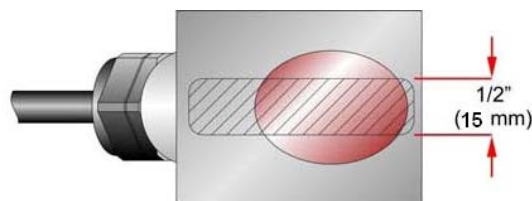

Figure 2.2
1. For DMTF transducers, place a single bead of couplant, approximately 0.05 inch [1.2mm] thick, on the flat face of the transducer. See Figure 2.2. Generally, silicone-based grease is used as an acoustic couplant, but any grease-like substance that is rated not to “flow” at the temperature that the pipe may operate will be acceptable.
5. Place a single bead of couplant, approximately 0.05 inch [1.2 mm] thick, on the flat face of the transducer. See **Figure 2.2**. Generally, a silicone-based grease is used as an acoustic couplant, but any grease-like substance that is rated to not “flow” at the temperature that the pipe may operate at, will be acceptable.